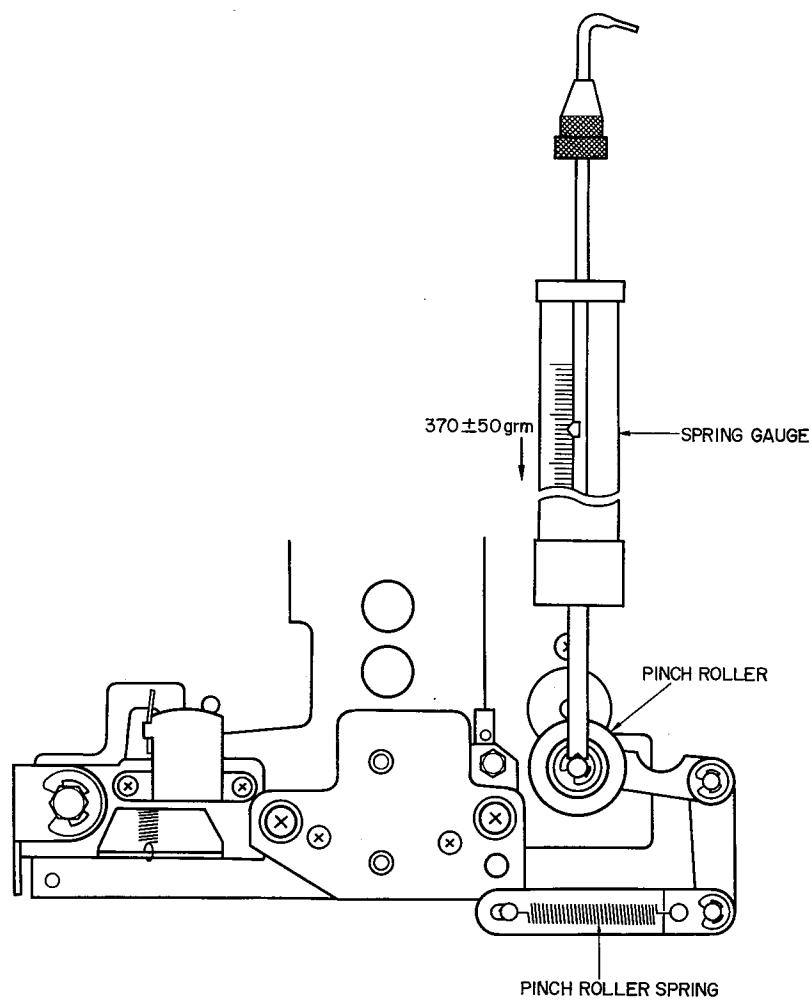

Fig. 19
5. PINCH ROLLER PRESSURE MEASUREMENT (Refer to Fig. 19)